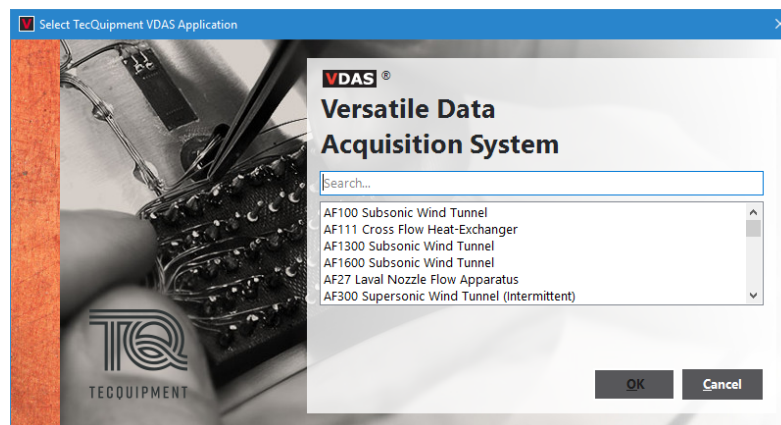

Figure 22 The 'Select TecEquipment Application' Screen
7. The first time that VDAS® is used, the software will show a 'Select TecEquipment Application' Screen (see Figure 22). Use this screen to select the TecEquipment VDAS® compatible product that the VDAS® Software is to be used with. The software will then load the correct settings and Layout for the product.